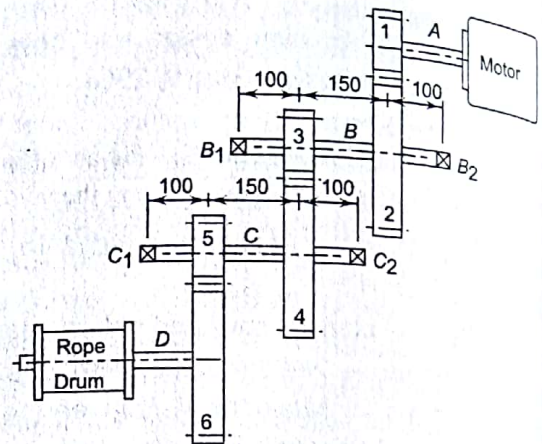

Fig. 17.48
- 17.5 **D** A train of gears transmitting power from a 10 kW, 1440 rpm motor to a rope drum is shown in Fig. 17.48. The number of teeth on the various gears is as follows, [LO 4]